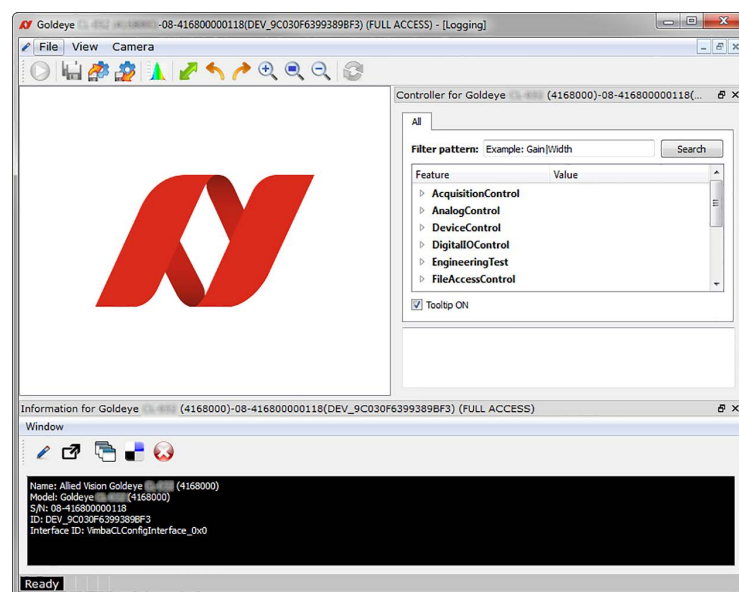

Figure 66: Vimba Viewer window
4. A new camera window appears, as shown in Figure 66 on page 248. This camera window consists of the following components:
The controller window is displayed in the top right section of the **Vimba Viewer** window, refer to Figure 66 on page 248. It is used to configure the camera frame rate, exposure time, pixel format, and much more. A detailed explanation of camera controls is available in the Goldeye G/CL Features Reference.